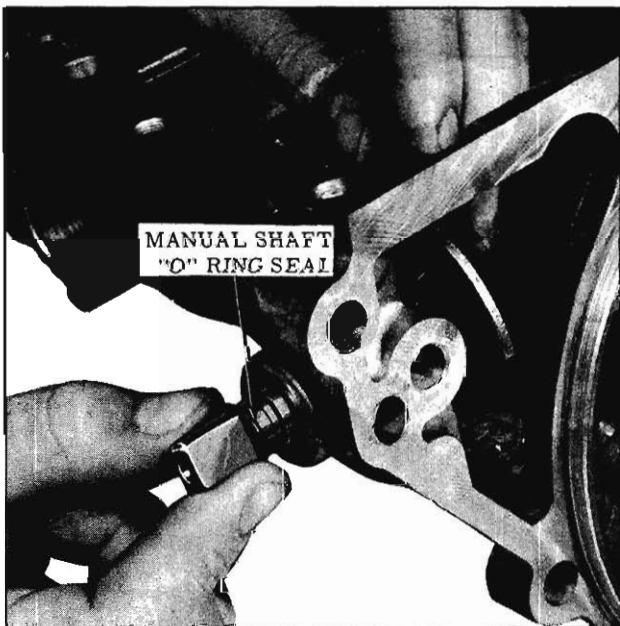

Fig. 6-72 Installing "O" Ring Seal
7. Install manual shaft "O" ring. (Fig. 6-72)